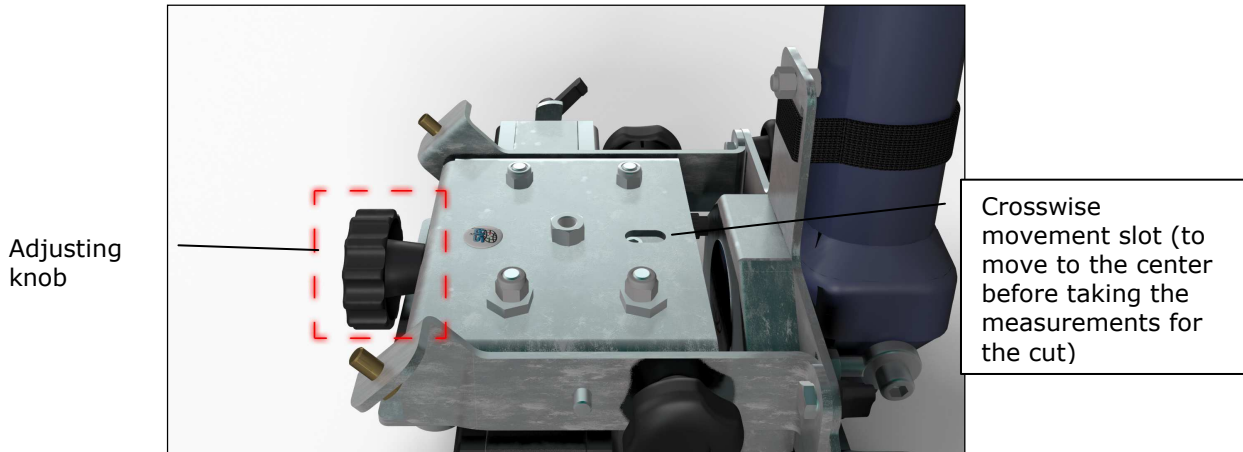

Fig. 6.4.4 Knob to adjust the crosswise movement of the carriage.
- 9- Position the screw head for the millimetric adjustment in the centre (see fig. 6.4.4)
- 26- Position the screw head for the millimetric adjustment in the centre (see fig.6.4.4)